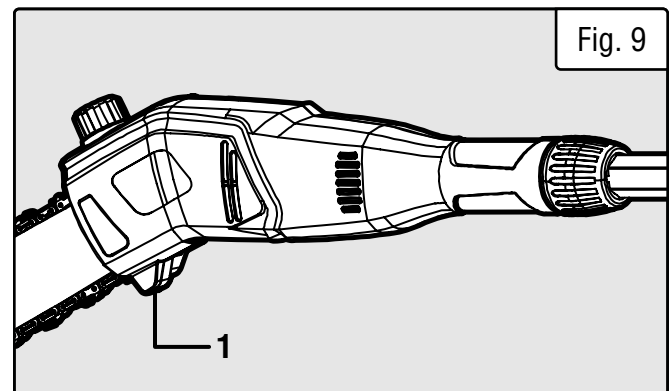

Fig. 9
1. Hook the shoulder strap onto the shoulder strap hook (Fig. 9 - 1). The shoulder strap helps to support the weight of the saw during transportation and operation. Only put the shoulder strap onto one shoulder so that you can move rapidly away from the tool in case of danger.
For sawing off smaller branches, place the stop face (Fig. 9 - 1) of the saw on the branch. This prevents unwanted movements of the saw at the beginning of the cut. While applying light pressure, guide the saw through the branch from top to bottom.